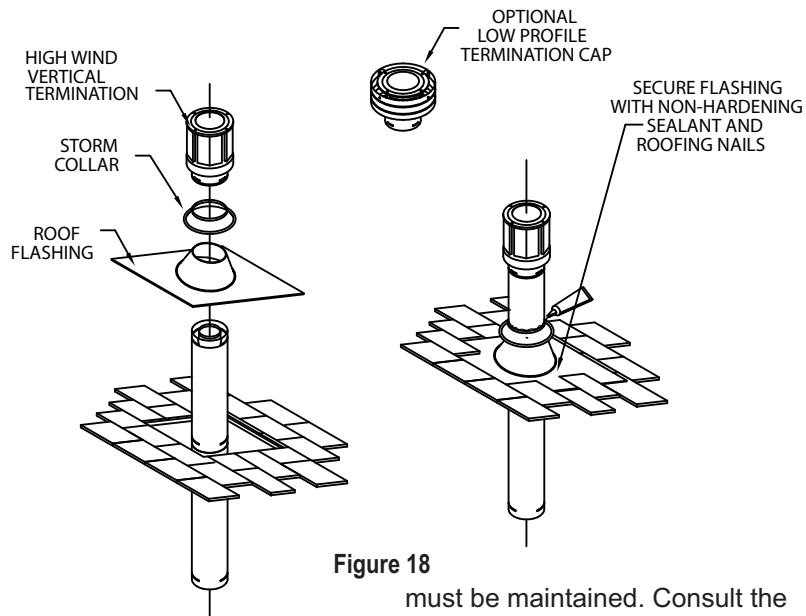

Figure 18
Step 9. Slip the Storm Collar over the Pipe Section, and push it down to the top of the Roof Flashing **(Fig. 18)**. Use non-hardening sealant between the Storm Collar and the Pipe Section.